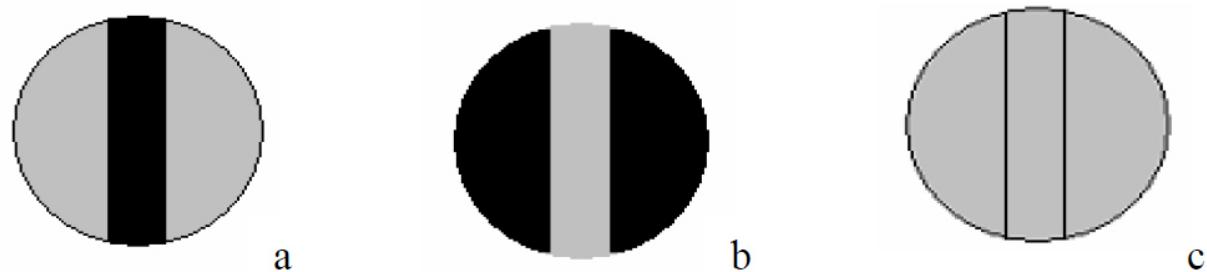

Fig.2
Normally the polarizer and the analyzer are placed so that their polarization planes are parallel or perpendicular to each other. When no sample has been put in the test tube the triplex viewing field should be uniformly bright in the parallel case (see fig. 2 c) or uniformly dark in the perpendicular case. To tare the system rotate the scale knob (8), controlling the scale (7) and the polarization analyzer (5), until all three fields has the same light intensity as in fig. 2 c.
Fig. 2 a,b) The viewing field after having inserted the liquid to be tested and before adjusting the polarization analyzer. c) The viewing field when no sample has been inserted. After having rotated the polarization analyzer. The illumination intensity is here equal.